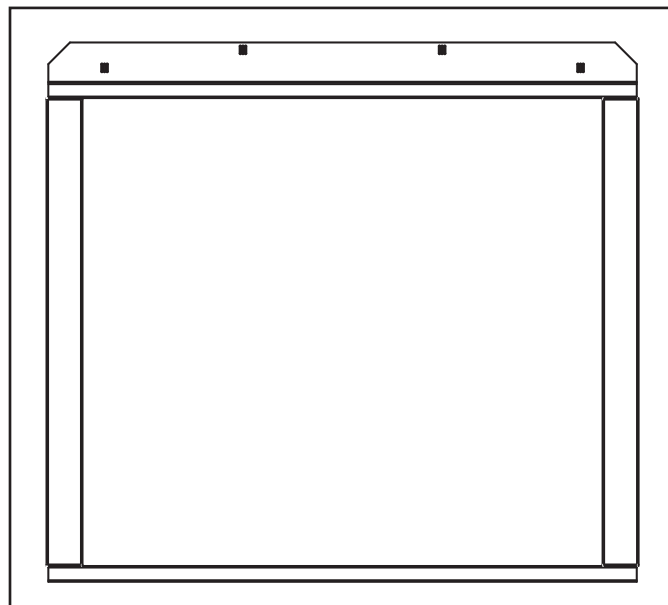

Figure 13.3 Appliance Surround
The CMOD door will overlap the appliance. See Figure 13.3 and 13.4.
- Seal joints between the finished wall and appliance top and sides using a 300°F minimum sealant. Refer to Figure 13.3.
If the appliance is installed at a minimum of 1 inch above the floor, the CMOD door can be used. The CMOD door OVERLAPS the sides, top and bottom of the appliance surround. See Figure 13.3 and 13.4 for dimensions.